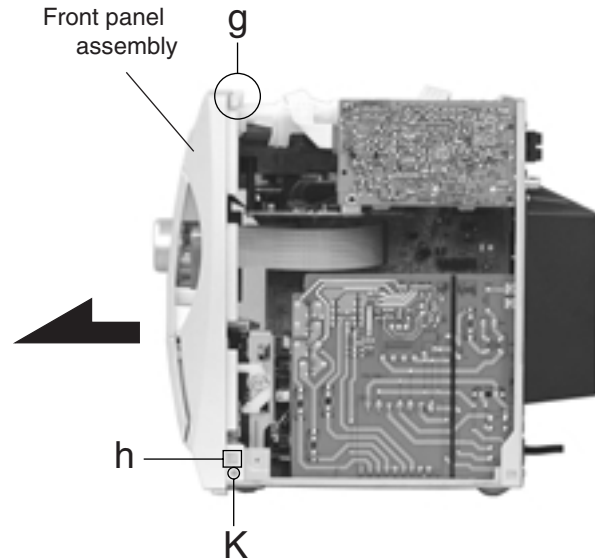

Fig.13
■ Removing the Front panel assembly (See Fig.13 to 16)